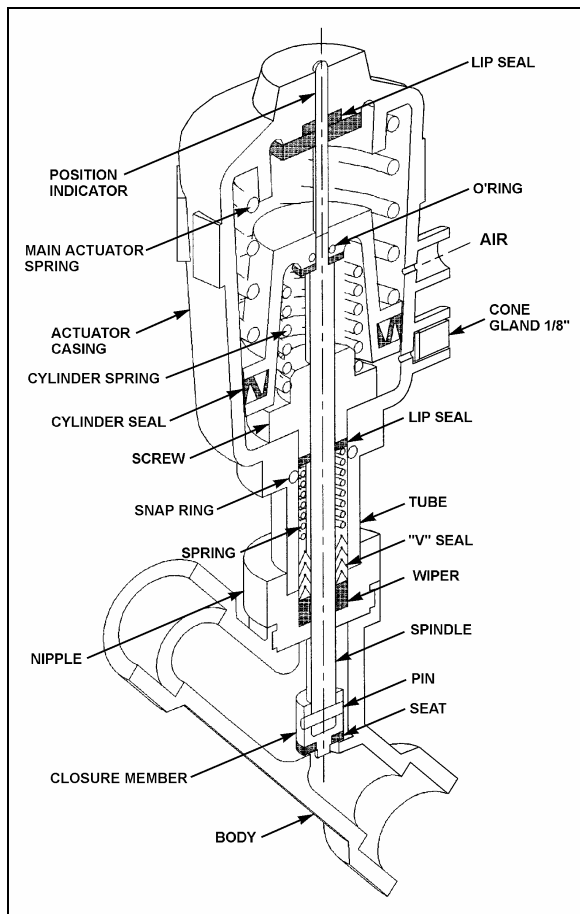

FIGURE 45: PNEUMATIC WATER VALVE
2. The water valve need not be removed from the line. Unscrew nipple, the actuator casing, tube, spindle and closure member can be removed (Fig. 45).